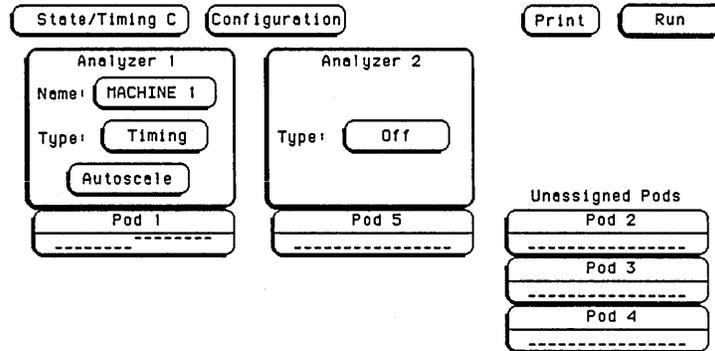

Figure 3-47. Configuration Screen
2. Set up the **Configuration** screen for assigning of the pod under test to **Analyzer 1** as in figure 3-47.